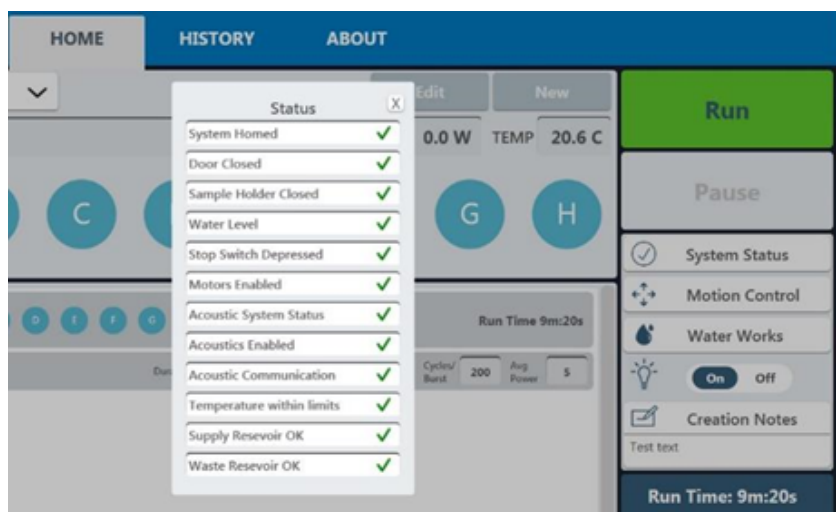

Figure 3.5 Instrument Status Panel: All OK
The remaining conditions, along with their related status, are displayed in the Instrument Status panel (see **Figure 3.5**). Click the “System Status” button to display the Instrument Status panel. An acceptable condition is indicated by a green check mark (✓) in the Status box. If a condition is not acceptable, the status will show (X).